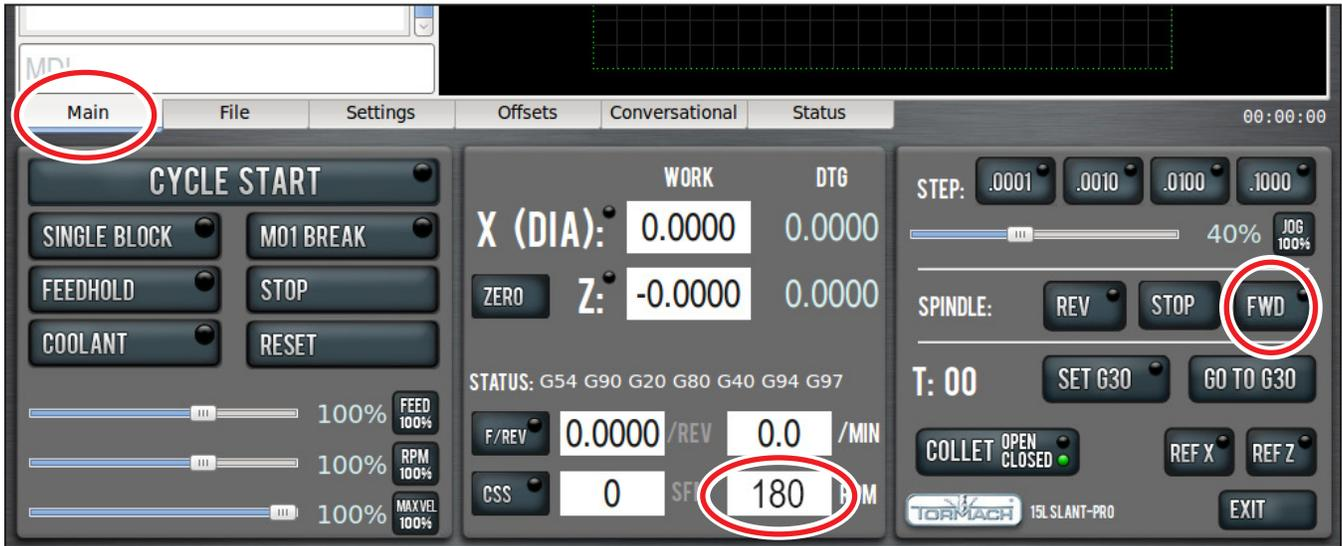

Figure 3.1
2. On the *Main* screen in the PathPilot interface, set chuck speed by entering 180 in the RPM field (see **Figure 3.1**). Then, press the **Enter** key on the keyboard.
3. Click Spindle *FWD* to start spindle rotation (see **Figure 3.1**).